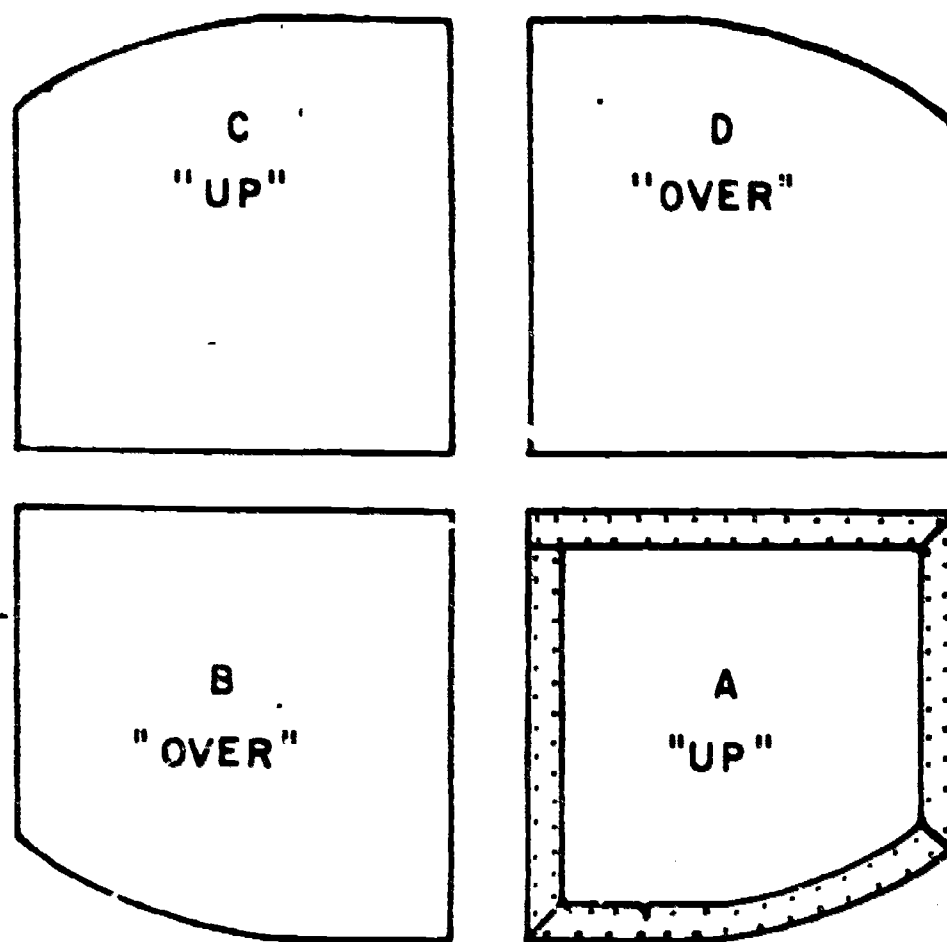

Figure 12. Position of Subflaps.
5. The completed flap (A) is shown in Figure 12. When making all four flaps, A and C flaps are made with the up side of the template facing the operator. Flaps B and D are reversed, the pattern is turned over for marking and sewing. If flaps B and D are not reversed, all flaps would fit in positions A and C.